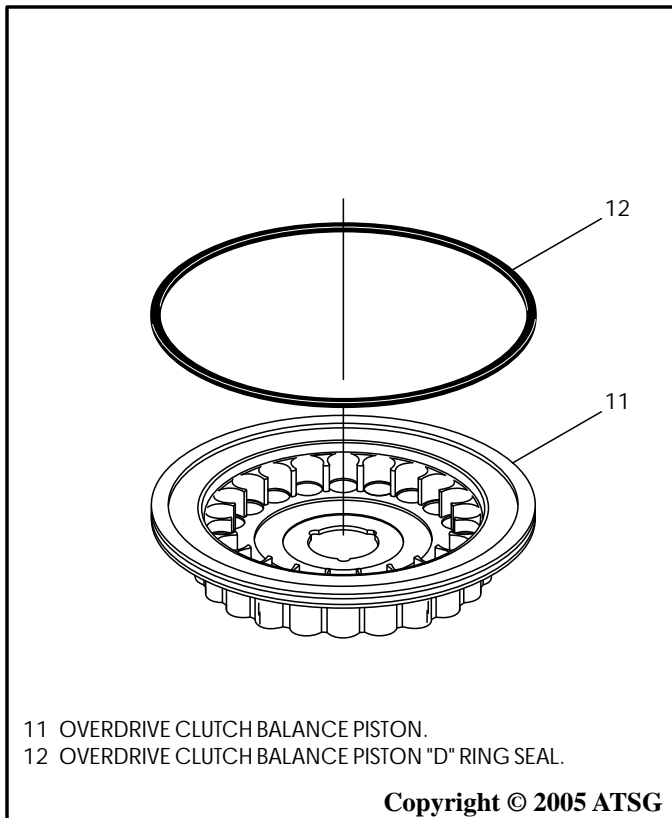

Figure 80
7. Install new "D" ring seal onto overdrive clutch balance piston, as shown in Figure 80, and lube with a small amount of Trans-Jel®.